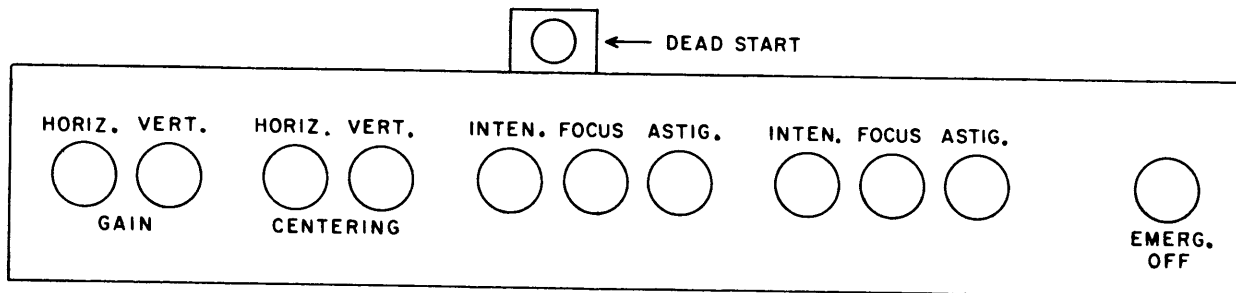

Figure 4. Operator Control Panel
- 2) The display adjustments DEAD START switch, and EMERGENCY OFF switch are directly below the two CRT's (Figure 4). Three of these controls, INTENSITY, FOCUS, and ASTIGMATISM are separate for each CRT. The remaining controls affect both CRT's equally.